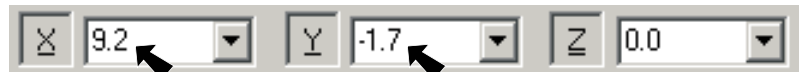

Fig. 38
**ENTER two times**, Fig. 38 and 39.